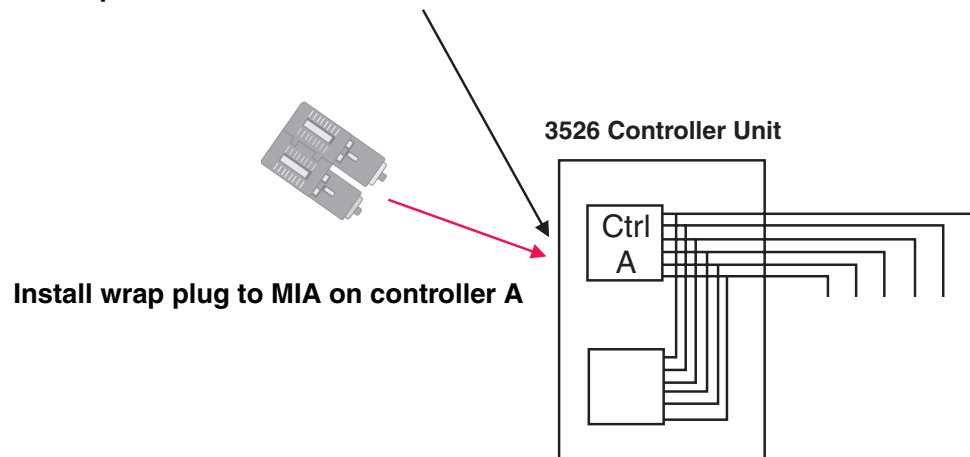

Figure 129. Install wrap plug to MIA on controller A
- a. For a Type 3526 RAID controller, install a wrap plug to the MIA on controller A. See Figure 129.